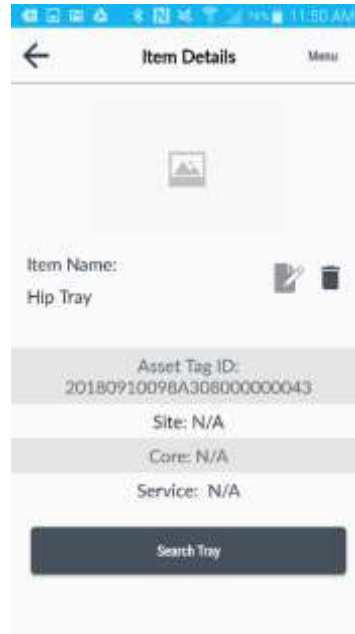

Figure 31
- This will show the picture, item name, Asset Tag ID, Site, Core and Service, then click on Search Tray. **Fig. 31**